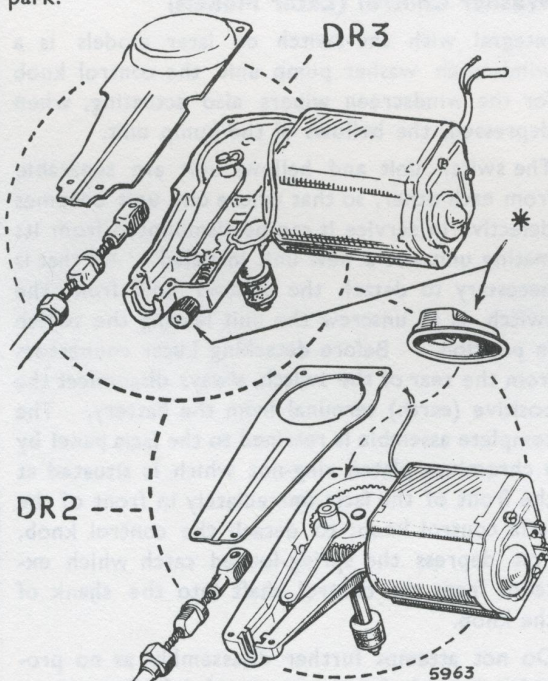

Fig. 34. Limit (parking) switch adjustment
*Two types of limit (parking) switch (Refer to Fig. 34).
Limit (parking) switch—to adjust (Refer to Figs. 34 and 35).